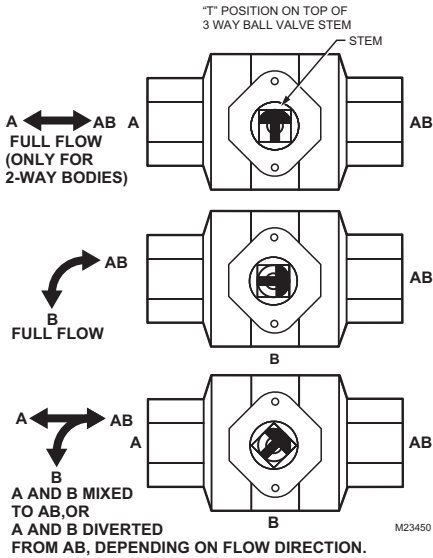

Fig. 5. Orientation of ball in valve
- (1) Clockwise to increase B to AB flow.
- (2) Counter clockwise to increase A to AB flow.
**NOTE:** After valves have been installed in the piping, the installer can determine the ball orientation within the valve from the notches in the top of the valve stem. For two-way valves, the lengthwise direction of the notch indicates the flow through the ball (i.e. when the notch is parallel to the axis of the valve between A and B ports, the ball will allow flow through the valve). For three-way valves, the flow can be determined by the orientation of the "T" shaped notch in the valve stem, as shown in Fig. 5.